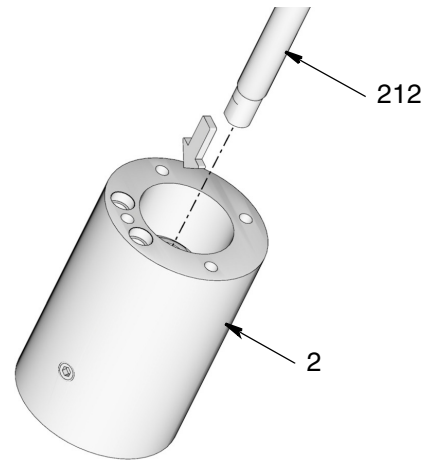

FIG. 35
4. Apply a thin layer of grease to the surface of displacement rod (212). Slide rod into the pump adapter (2) in the direction shown in FIG. 35 only.